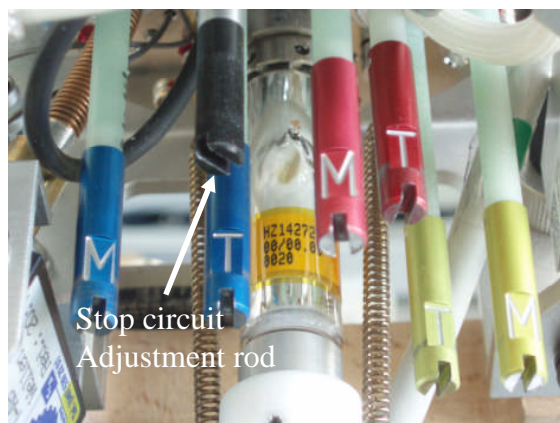
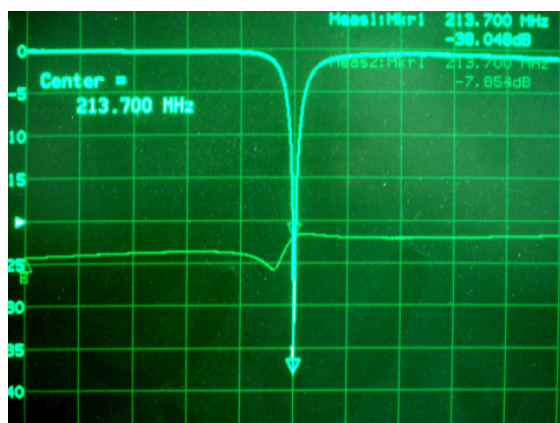
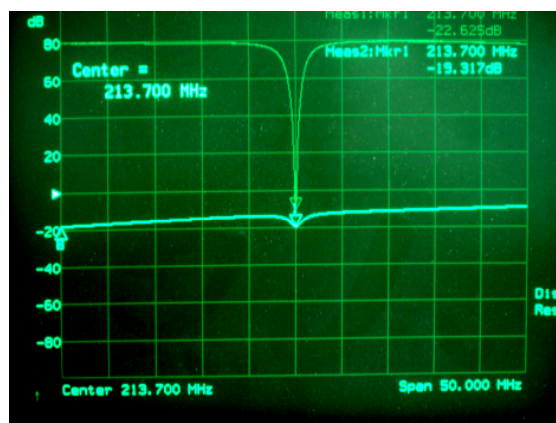

Fig.5 Adjustment rod of the stop circuit frequency
Fig.6  $^{13}\text{C}$  stop circuit frequency **not** optimized
Fig.7  $^{13}\text{C}$  stop circuit frequency optimized
1. Adjust the stop circuit frequency by turning the black rod at the bottom of the probe, see Fig.5 and observe the isolation at the Network- Analyzer, see Fig.6 and Fig.7